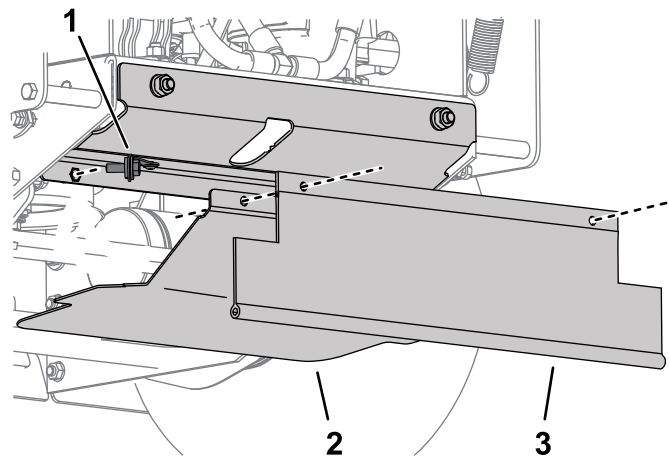

Figure 8
6. Test fit the underside guard and adjust the position of the drive pulley guard if necessary (Figure 8).
7. Install the underside guard and drag shield to the drive pulley guard and secure them with the bolts captured in the lanyards on the drive pulley guard (Figure 8).